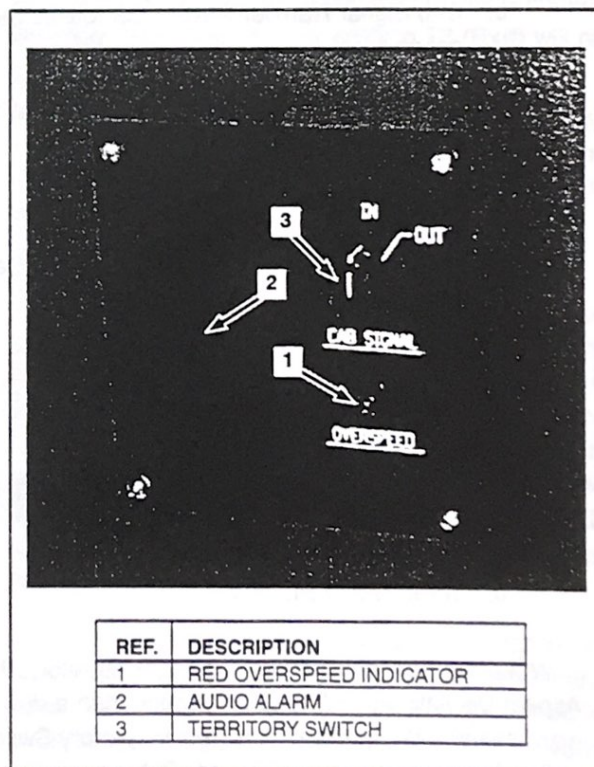

FIG. 55. CAB SIGNAL OVERSPEED DISPLAY PANEL. E-42786.
When the aspect changes downward, the audio alarm on the Cab Signal Overspeed Alarm Panel (Fig. 55) sounds. The operator must respond by pressing the Acknowledge button (Item 16, Fig. 5), which will silence the alarm. Failure to acknowledge results in a penalty brake application.
1. Red Overspeed Indicator (Item 1, Fig. 55)
2. Audio Alarm (Item 2, Fig. 55)
3. Territory Switch (Item 3, Fig. 55)
The IITS system provides a means by which a passing locomotive can read the state of a wayside signal displaying an aspect other than CLEAR. The IITS can also read the state of a permanent location in IITS territory. An audio and visual warning is then provided on the Cab Signal Overspeed Display Panel (Fig. 55). Should the operator not acknowledge within 7 seconds, a penalty brake application with PCS will result.